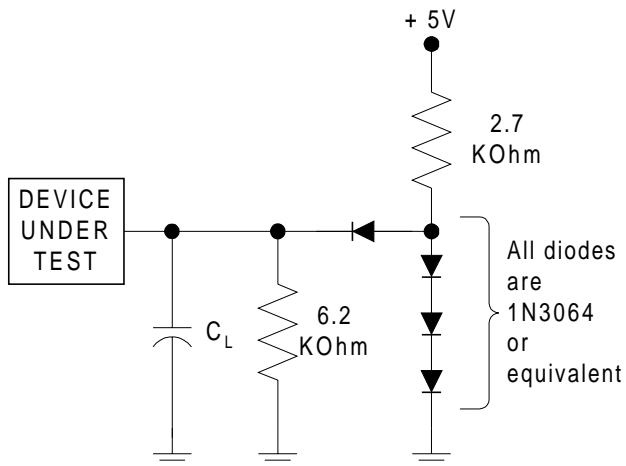

Figure 11. Test Setup
- See Figure 11 and Table 7 for test conditions.
2. See Figure 11 and Table 7 for test conditions.